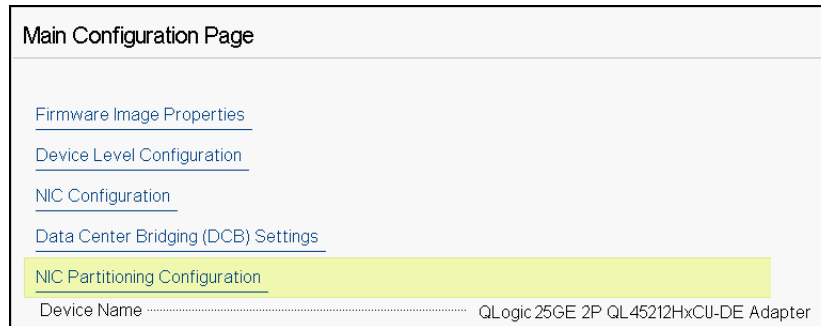

Figure 5-4. Main Configuration Page, Setting Partitioning Mode to NPAR
- ❑ Under **Device Level Configuration**, set the **Partitioning Mode** to **NPAR** to add the **NIC Partitioning Configuration** option to the Main Configuration Page, as shown in Figure 5-4.
In Figure 5-3 and Figure 5-4, the Main Configuration Page shows the following: